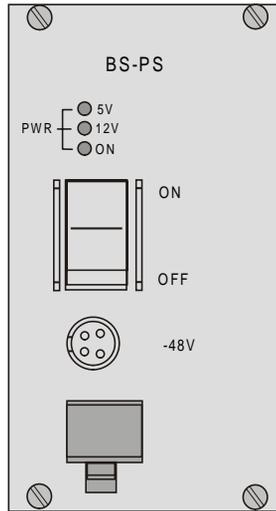

Figure 2-6. BS-PS Front Panel
The BS-PS provides -48VDC to all the modules installed in the BS-SH rack. The BS-PS front panel is shown in Figure 2-6.
4. Connect the DC power cord to the -48 DC In jack (marked -48V) located on the front panel of the BS-PS power supply shown in Figure 2-6. If a redundant power supply module is installed, connect a power cable to it as well.
2. Connect the AU -PS power cord to the DC In jack (marked DC-12V) located on the rear panel of the Indoor unit (shown in Figure 2-6).